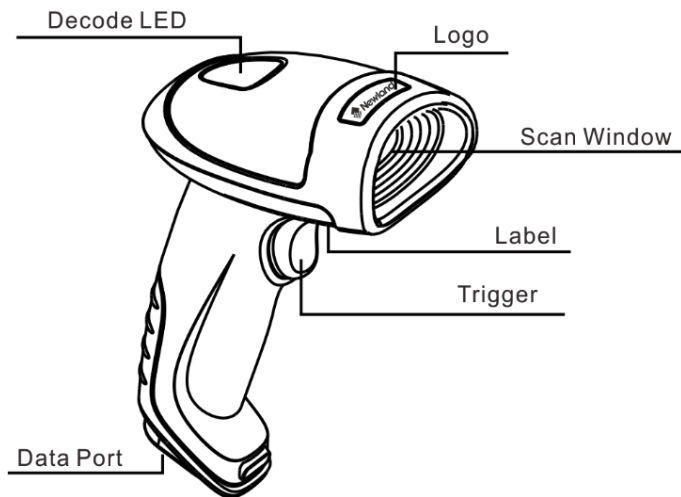

Fig. 1-1
1. Plug the RJ45 connector into the data port (see Fig.1-1) on the HR3280 scanner.
1. Plug the RJ50 connector into the data port (see Fig.1-1) on the HR3280 scanner.